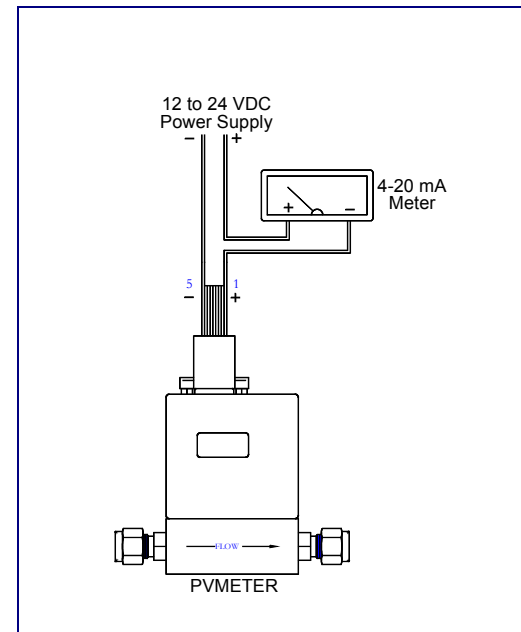

Figure 5: 4-20 mA Meter Connection
- 4-20 mA output meters **must be** powered via the DB9 connector. See Figure 5 for proper power connections for these meters.
- Current Output** – Current output flowmeters provide an output span that ranges from 4 mA – 20 mA. The flowmeter draws 4 mA at zero flow and 20 mA at the full scale flow value. The linear output is transmitted through the DB9 connector to an external device, such as an ammeter. (See Figure 5)